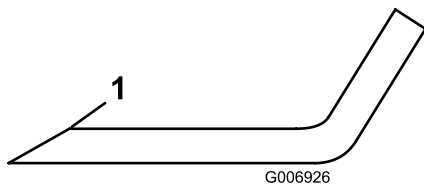

Figure 30
1. Use a file to sharpen the cutting edge at both ends of each blade (Figure 30). Maintain the original angle. The blade retains its balance if you remove the same amount of material from both cutting edges.